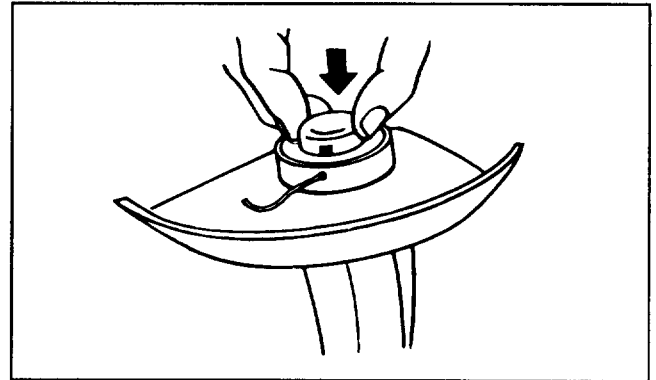

Figure 21
3. If line should tangle or break at eyelet, refeed cutting line through eyelet by pushing spool in as far as it will go and threading line back through eyelet. Or you may remove spool completely, refeed the line through the eyelet, and reassemble spool to trimmer (Fig. 21).